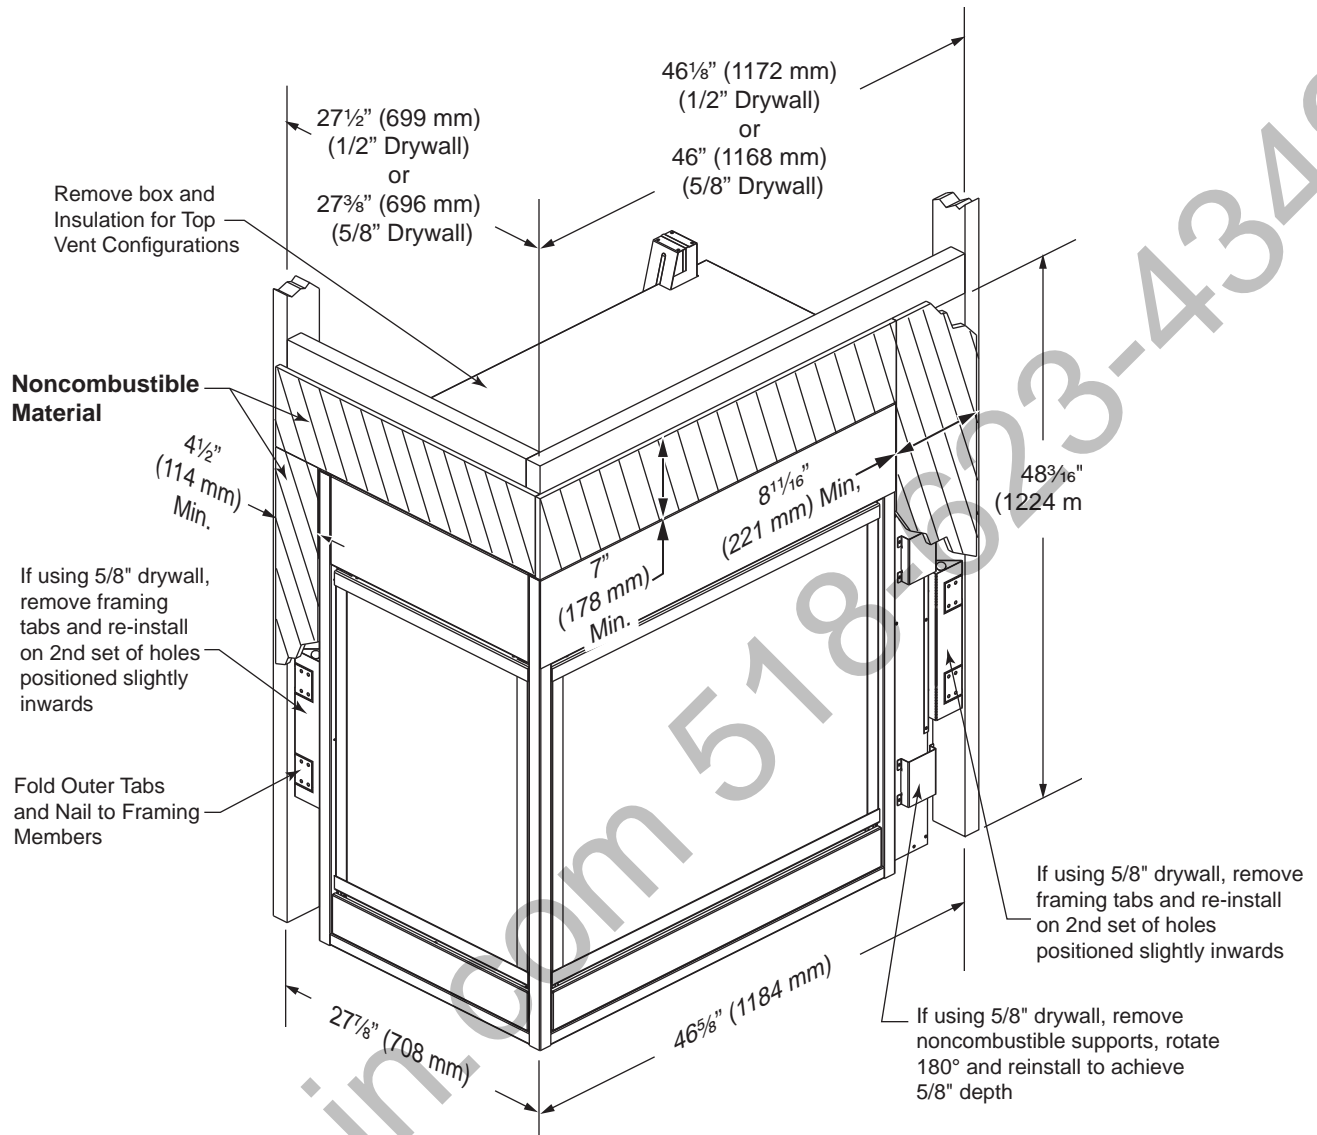

Figure 6 - CRLDV and CLLDV (Corner) Framing
The fireplace must be secured to the floor and/or to framing studs as shown in Figure 6 . Use four (4) wood screws or masonry/ concrete screws to secure fireplace to the floor. Use four (4) screws to attach fireplace to framing. The side brackets or nailing flanges are designed to accommodate two wall boards thicknesses, 1/2\" or 5/8\".